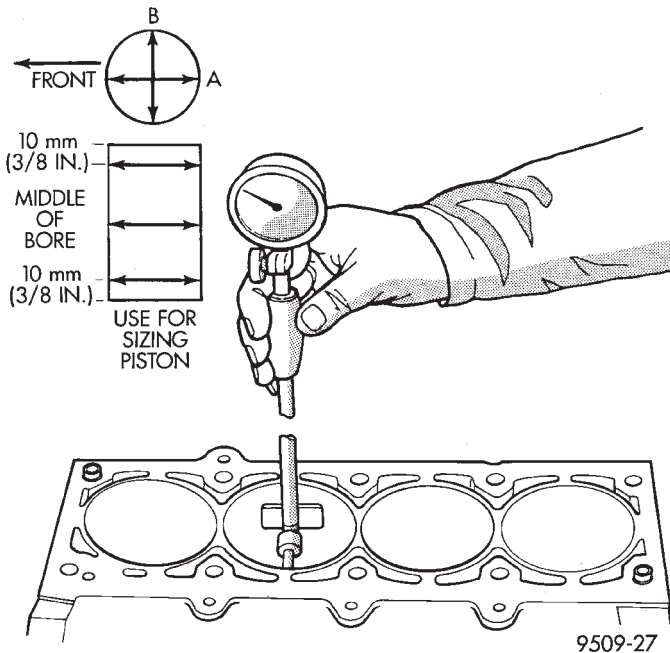

Fig. 65 Cylinder Bore Measurement
(1) It is mandatory to use a dial bore gauge to measure each cylinder bore diameter (Fig. 65). To correctly select the proper size piston, a cylinder bore gauge, capable of reading in 0.003 mm (.0001 in.) INCREMENTS is required. If a bore gauge is not available, do not use an inside micrometer.